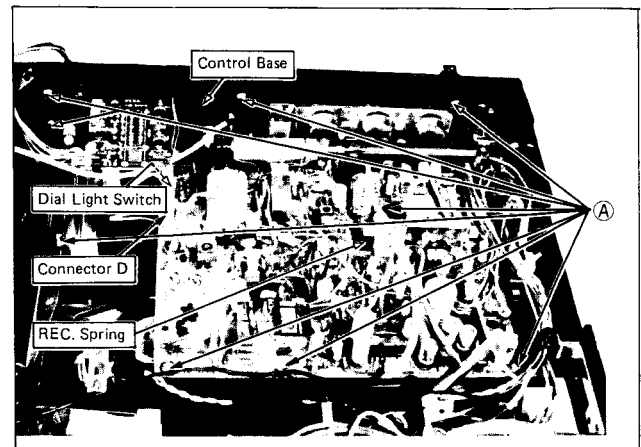

Fig. 6
1. Unfasten the nine screws marked (A) in Fig. 6.